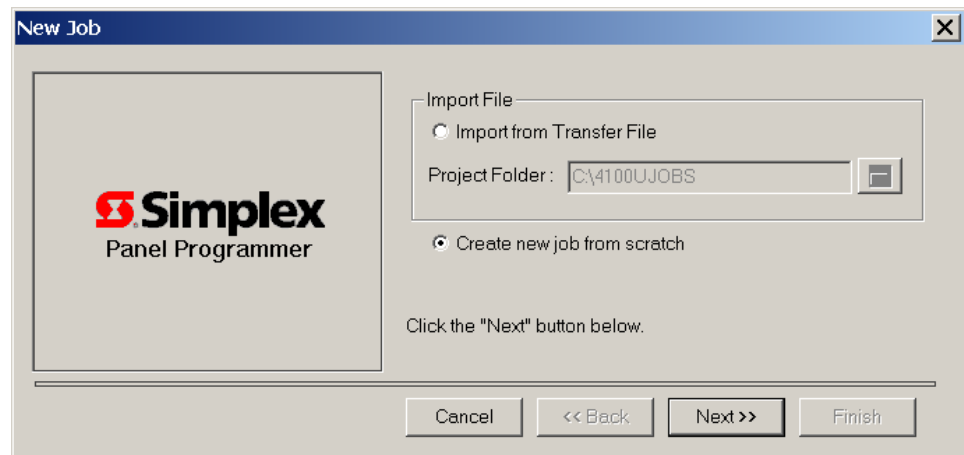

Figure 3-2. New Job Wizard
In both cases, the New Job wizard, shown in Figure 3-2, appears. The first screen prompts you to choose whether the job is being created from scratch or imported from an OASYS transfer file. Refer to “Creating a New Job from Scratch” or “Importing an OASYS Transfer File” below for specific information.
3. In the **Path** field of the Create New Job dialog (refer back to Figure 3-2), specify the directory path to which the job file should be stored. The default directory for a standalone panel is \4100UJOBS. (Network jobs default to \NETJOBS\NETWORK\NETNAME, where NETWORK represents the job's directory and NETNAME is the name of the network job.) If necessary, use the folder icon to the right of the text entry field to specify an alternative directory or drive.
1. Select the button labeled **Import from Transfer File**. (Refer back to Figure 3-2 for the location of this button.